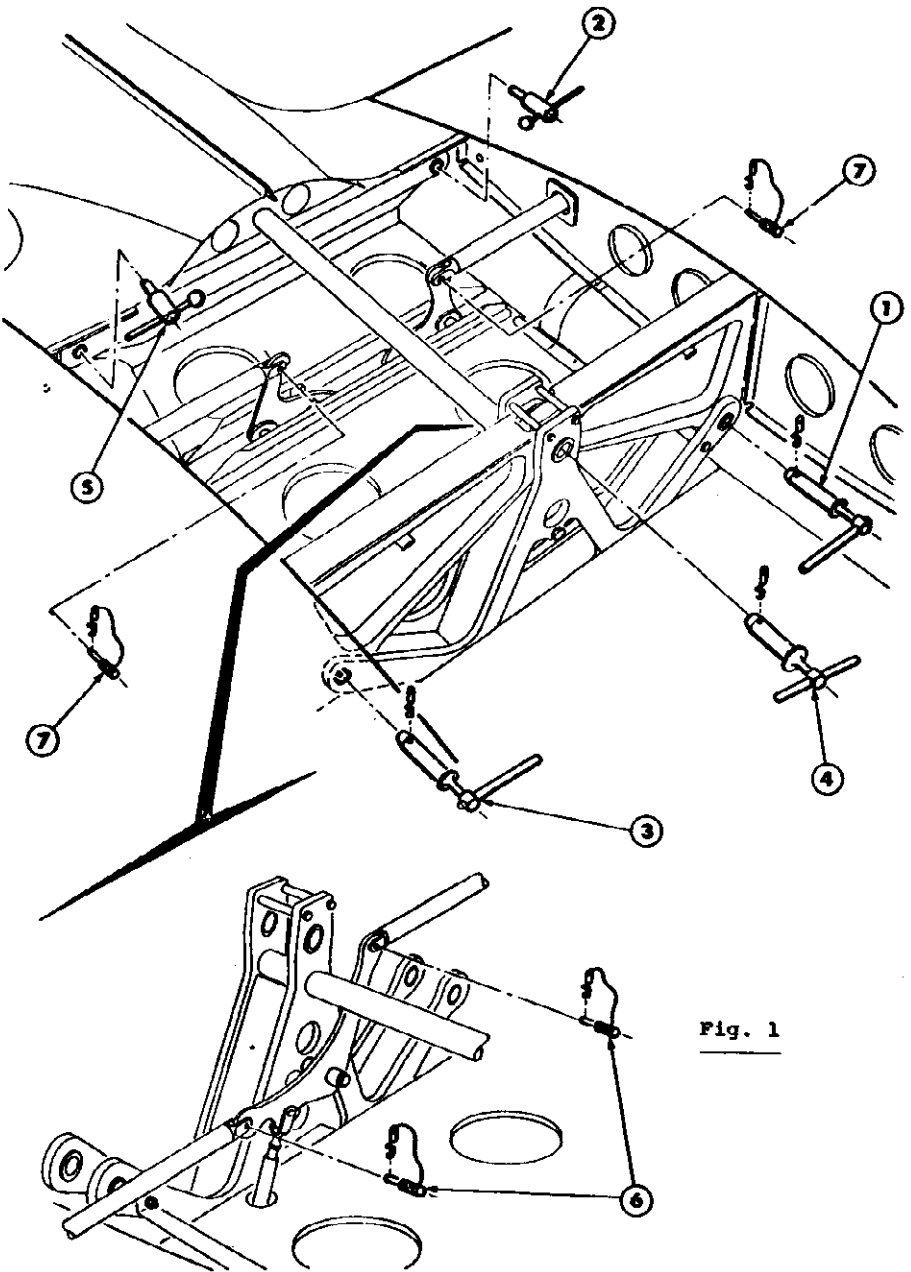

Fig. 1
1.2 Wing Assembly (see Fig. 1)
- Insert left-hand wing, install outer bolt (1) on main bulkhead, then rear bolt (2).
- Insert right-hand wing, install bolts (3) and (4), and finally rear bolt (5).